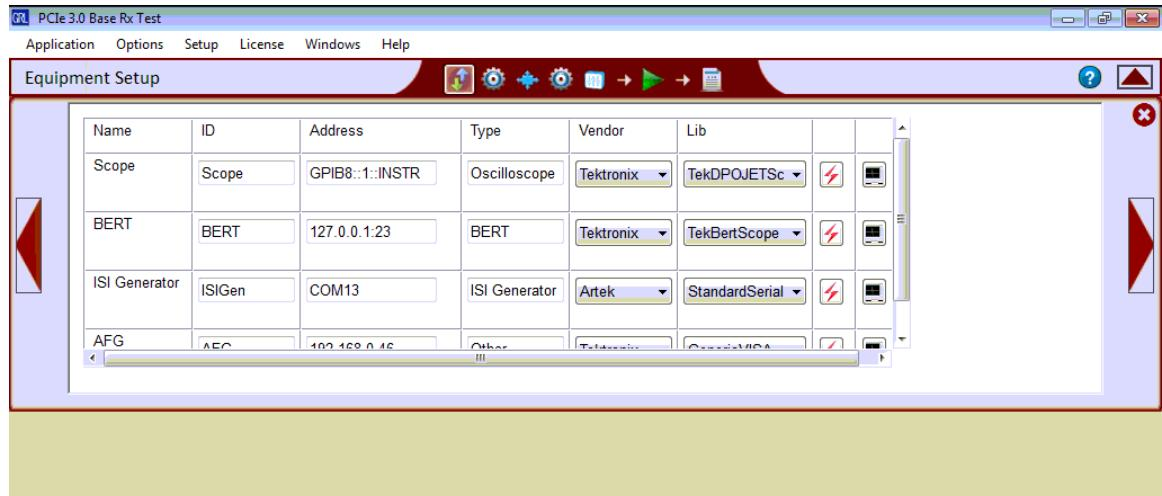
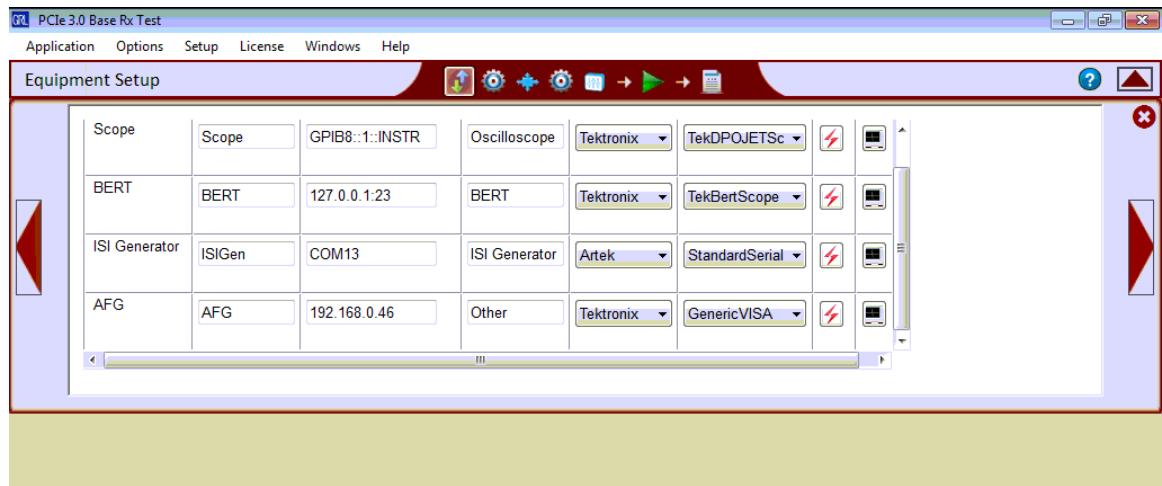

FIGURE 9. EQUIPMENT SETUP WINDOW – VIEW #1
FIGURE 10. EQUIPMENT SETUP WINDOW – VIEW #2
10. Note these settings, as in Figure 9 and Figure 10: